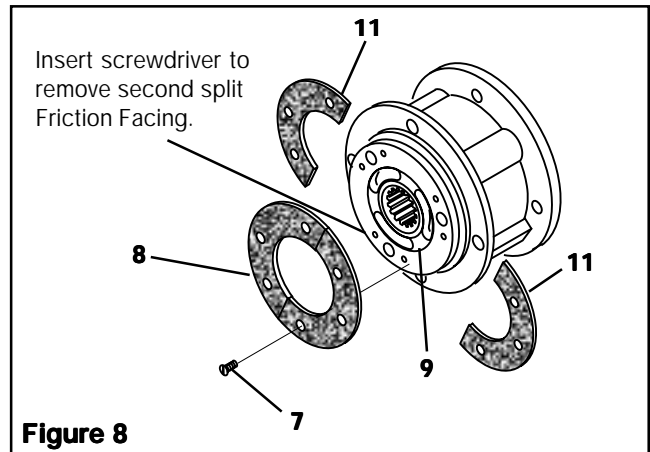

Figure 8
2. Remove the six old Flat Head Screws (Item 7) and the first old Friction Facing (Item 8) (See Figure 8).
3. Align the holes in the Splined Disc (Item 9) with the Flat Head Screws (Item 7) that secure the second split Friction Facing (Item 11) (See Figure 8).
4. Remove the six old Flat Head Screws (Item 7) and the second old Friction Facing (Item 11) (See Figure 8).
7. Install the second new Friction Facing (Item 8) and six new Flat Head Screws (Item 7) (See Figure 8).